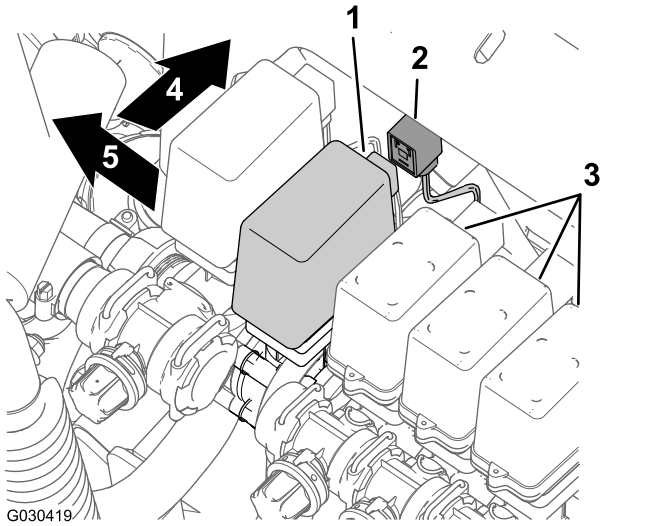

Figure 12
1. At the back of the machine, locate the 3-socket connector of the rear, main wire harness for the machine labeled EDUCATOR (Figure 12).
2. Remove the educator connector of the main harness from the 3-blade connector of the educator valve (Figure 12).